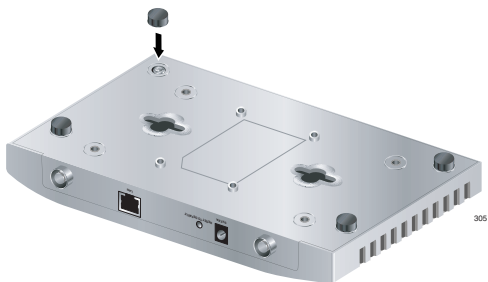

Figure 5. Attaching the Rubber Feet
2. Attach the four rubber feet to the bottom of the access point as shown in Figure 5.